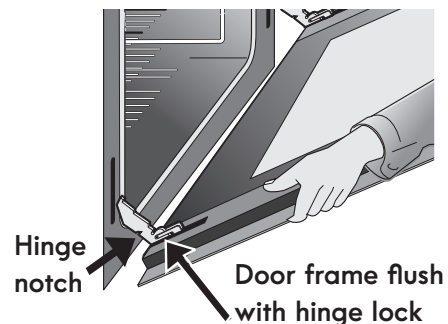

Figure 19: Remove door position
4. Pull the bottom of the door toward you while rotating the top of the door toward the appliance to completely disengage the hinge levers (Figure 19).
1. Firmly grasp both sides of oven door along the door sides. Do not use the oven door handle (Figure 19).
2. Hold the oven door at the same angle as the removal position. Carefully insert the hinge levers into the oven frame until you feel the hinge levers are seated into the hinge notches. The hinge arms must be fully seated into the hinge notches before the oven door can be fully opened. (Figure 19).